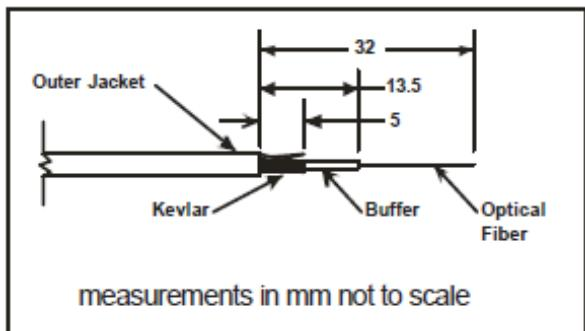

FIGURE 1 CABLE PREPARATION
- 2.04 Strip the cable to the dimensions shown in Figure 1.